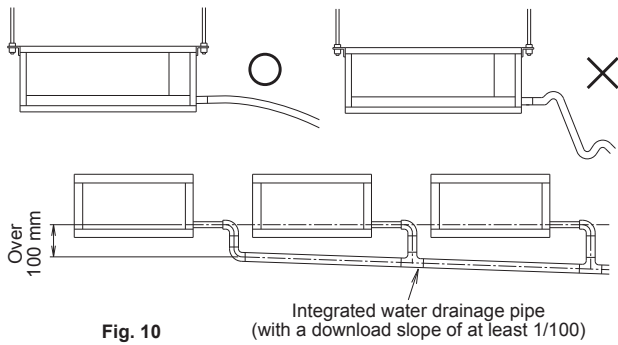

Fig. 10
(1) Install the water drainage pipe.
- The water drainage pipe shall be short as possible and tilt downward, and the slope shall be at least 1/100, so as to prevent the forming of any air trap. (Refer to Fig. 10)
- In case that an integrated water drainage pipe is used, please connect it as shown in Fig. 10.
(2) When the pipe work is completed, please check whether the water drainage is smooth.